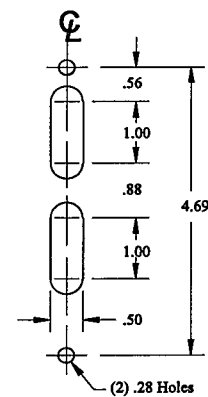
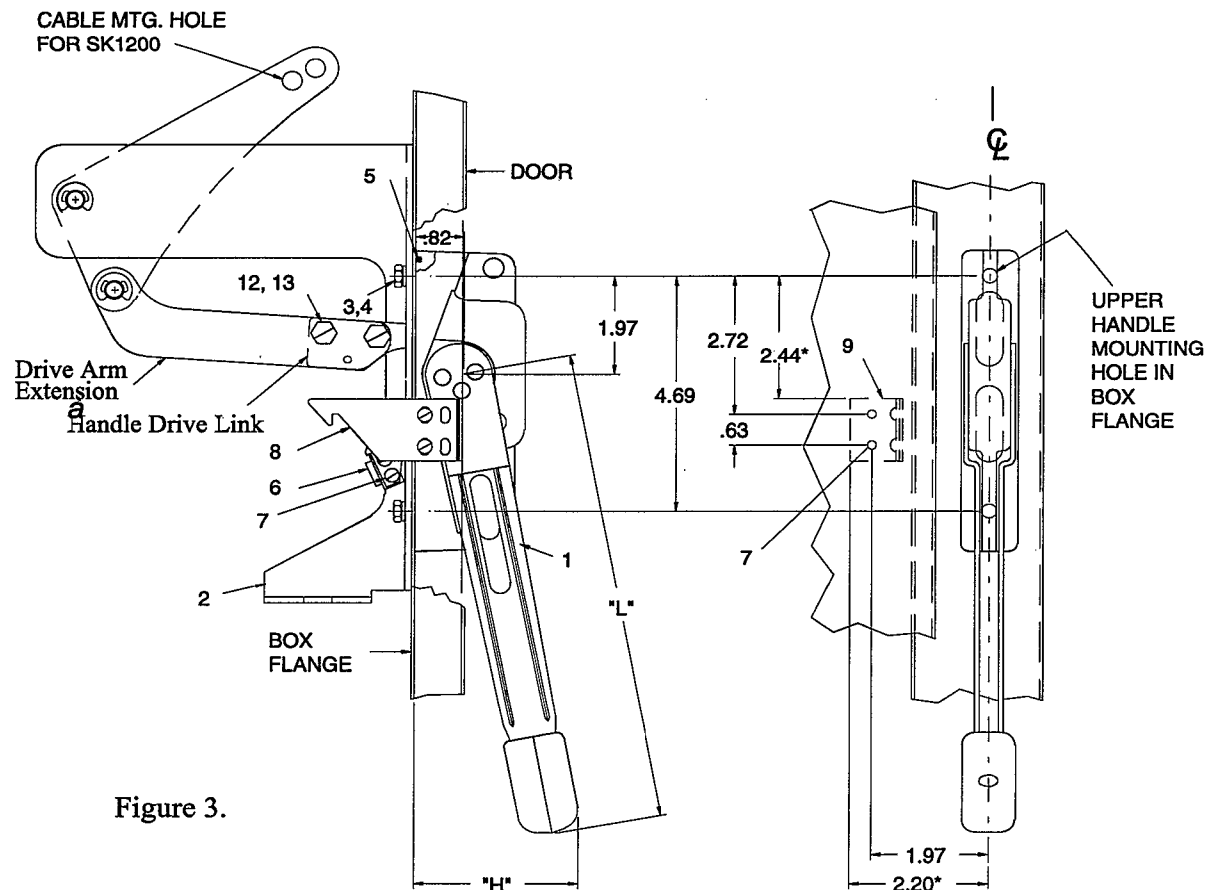

Figure 2.
Figure 3.
Table 4. Handle Dimensions, See Figure 3.
1. Referring to Figure 1, Figure 2, and Figure 3 determine location of handle on flange of enclosure. Handle can be mounted either on the right or left side of enclosure.
5. Assemble drive arm extension to handle drive link using (2) $\frac{1}{4}$ -20 x $\frac{3}{8}$ " long slotted hex hd. screws, item 12, and lockwashers, item 13, as shown in Fig. 3. Torque to 35-45 in. lbs.
6. Drill and tap (2) 8-32 holes in cover per Fig. 1 and Fig. 3 and assemble interlock bracket, item 9, to cover using (2) 8-32 sems screws, item 7. Assemble screws from inside the door. Alternatively, bracket may be welded to cover using dimensions noted with asterisk (*) to locate upper left-hand corner of bracket, as shown in Fig. 1.
7. Assemble interlock hook, item 8, to interlock bracket, item 9, using (2) 8-32 sems screws, item 7. Use lower set of holes in hook for $\frac{3}{4}$ inch turned edge door (as shown) or upper set of holes if door has $1\frac{1}{8}$ inch turned edge.
8. With handle in OFF position attempt to close door. If interlock blade interferes with interlock hook, DO NOT force door closed. Loosen (2) 8-32 screws, item 7, and move interlock hook upward. Door should close without interference. Attempt to turn handle ON; If handle will not turn ON, loosen (2) 8-32 screws, item 7, securing interlock hook and move hook downward (toward bottom of enclosure) to provide more depression of interlock blade, thus not allowing handle interlock to engage.
9. As the handle is moved into the "ON" position, interlock hook should engage interlock blade and door should be prevented from being opened unless the handle interlock is manually disengaged by rotating, clockwise, the interlock defeat button with a flat-blade screwdriver on handle, item 1. If door can be opened with handle in "ON" position, without defeating interlock blade, readjust interlock hook downward and repeat steps 9 and 10.